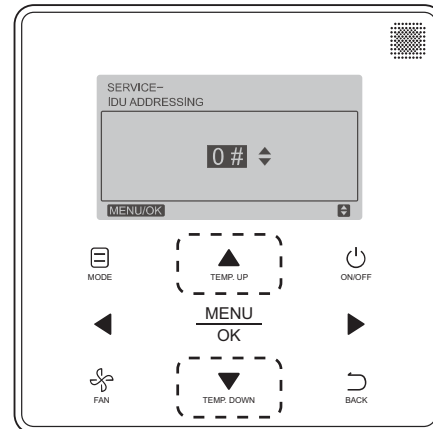

Fig. 28 —Programmable Controller Setting IDU Address
3. Press **TEMP. UP** or **TEMP. DOWN** to choose the address you want to set as shown in Fig. 28. Press **MENU/OK** to send this address to the IDU.